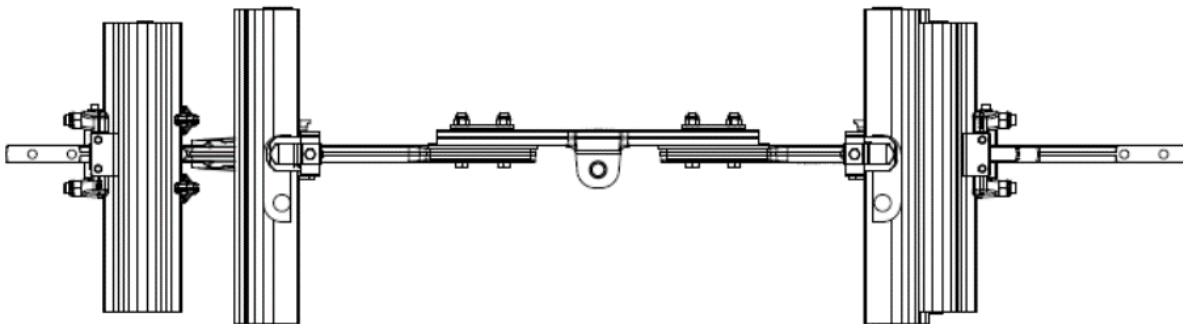

Figure 2
**⚠** Be aware of the installation position of the locking part. The position of the hex head of the axis must face the centre line of the sleeper and the start of the switch assembly. (Figure 2)
Mount the locking part on the base of the rail. Align it in the centre of the switch hole for the stretcher bar bracket. **Be aware of the installation position of the locking part / hexagonal axis.** (Figure 2).
Be aware of the installation position of the stretcher bar bracket. The position of the adjusting cam must face the centre line of the sleeper and the start of the switch assembly. (Figure 2)
**Be aware of the installation position of the stretcher bar bracket / adjusting cam. (Figure 2)**
Align the locking part in the centre of the cam bar and locking clamp and tighten to the required torque of  $155 \pm 10$  Nm without lubricant (Figure 2).